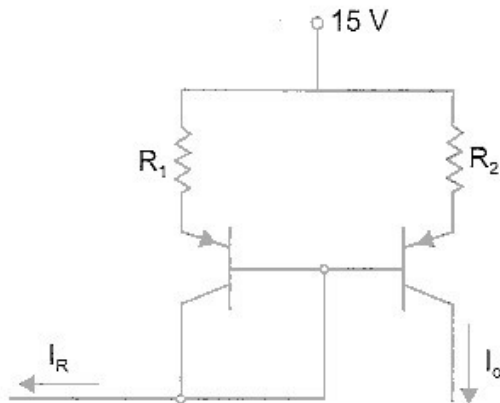

Fig. P. 2.16
- 2.16. In the circuit of Fig. P. 2.16, $I_R = 50 \mu\text{A}$, what is the ratio R_1/R_2 needed for $I_o = 100 \mu\text{A}$?